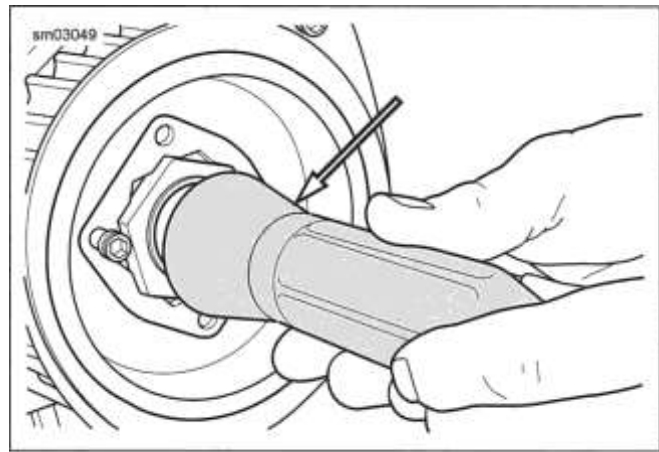

Figure 5-76. Seal Driver
3. Slide seal (2) on seal protector sleeve with garter spring facing bearing.
4. See Figure 5-76. Hand press seal onto place until seal driver contacts end of main drive gear. Lightly tap with a rubber mallet if necessary.